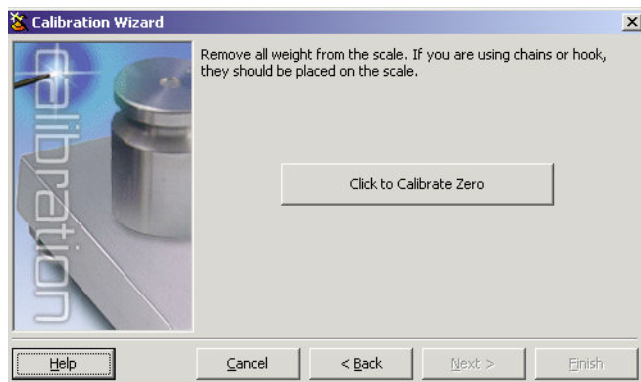

Figure 4-6. iRev 4 Zero Calibration Display
4. Remove all weights from the scale. If chains or hooks are used, place them on the scale. Press the *Calibrate Zero* button to perform the zero calibration (see Figure 4-6). A message box appears when the process is complete.